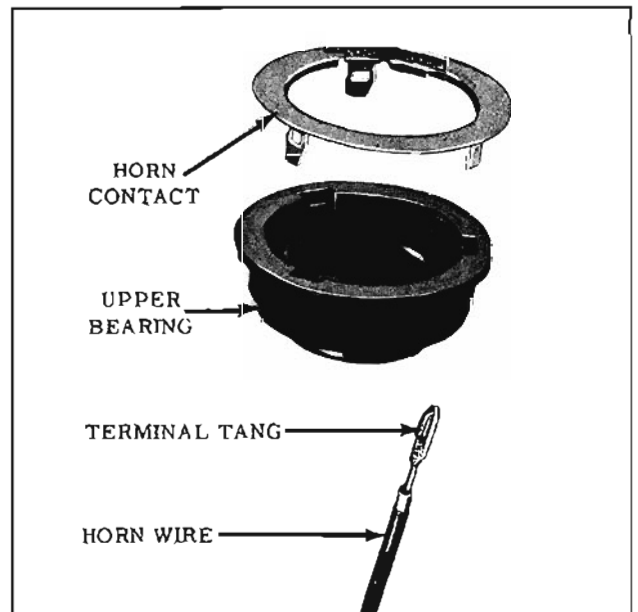

Fig. 8-82 Horn Contact and Bearing
5. Prior to assembly, bend horn wire terminal tang if necessary so that it will lock in horn contact. (Fig. 8-82)